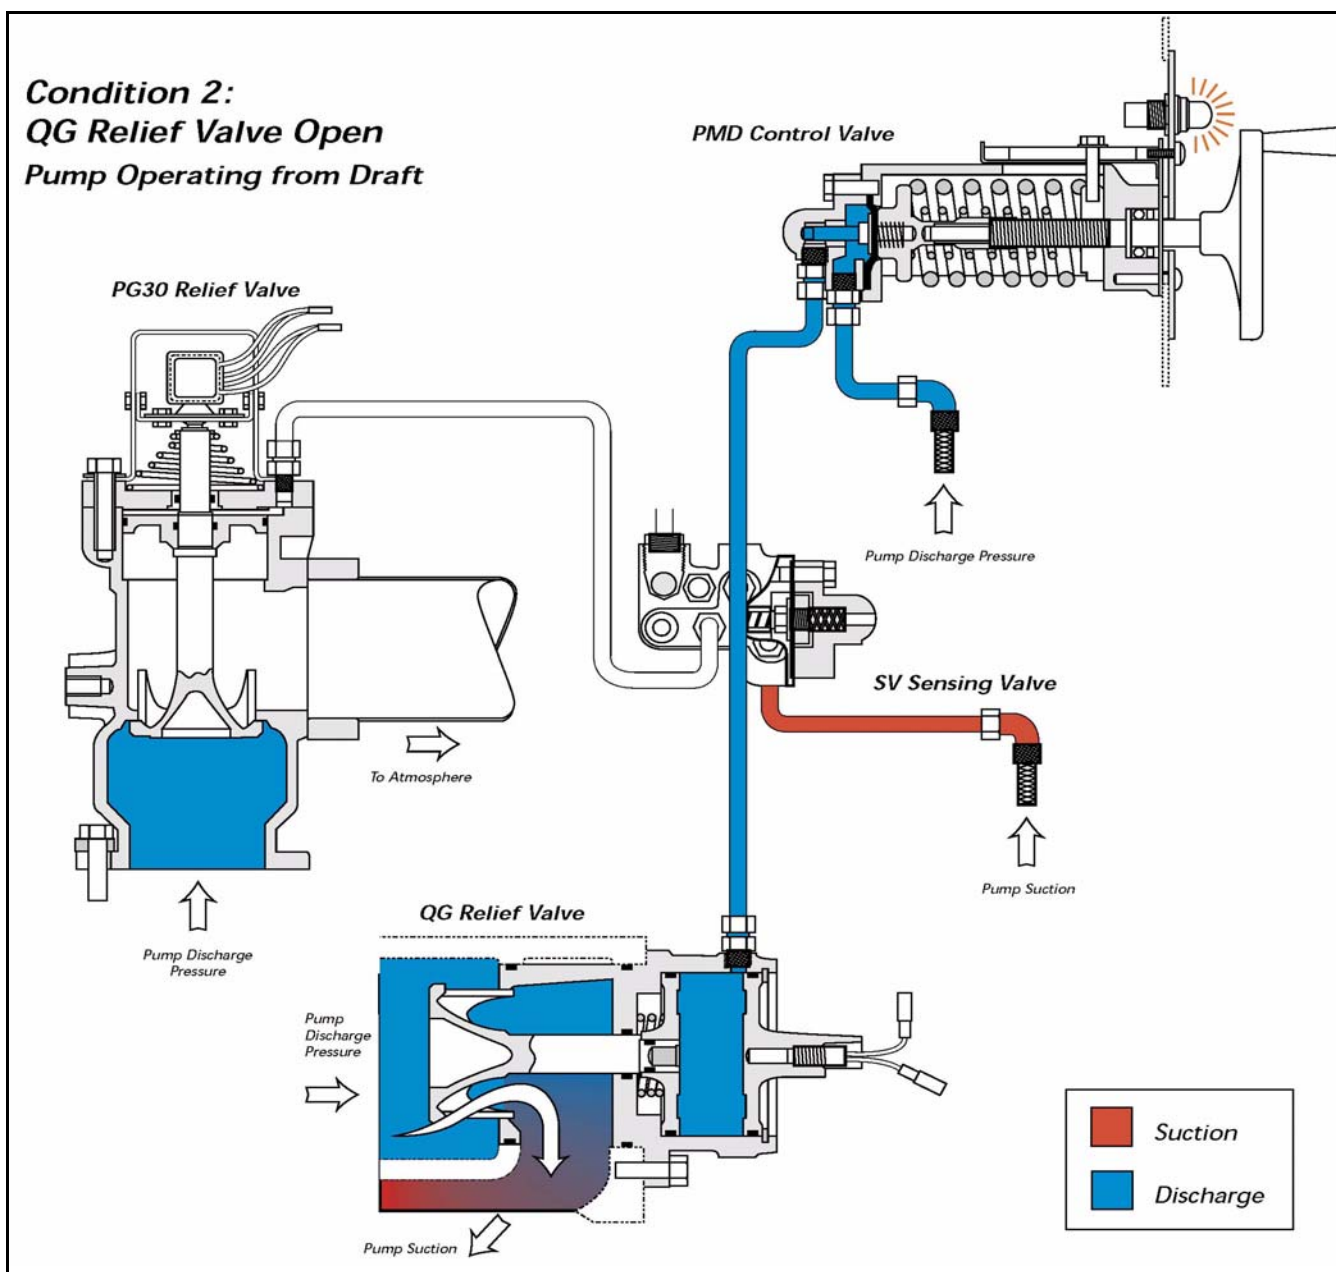

Figure 3-16: Typical TPM Relief Valve System, Condition 2
- ☐ Figure 3-16: “Typical TPM Relief Valve System, Condition 2” on page 51